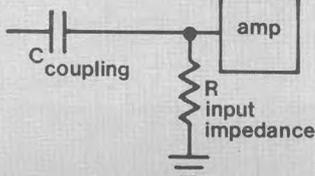

Fig. 4
**Coupling capacitor formulas.** Suppose we have a circuit like figure 4, where we need to capacitively couple into a stage with a 100k input impedance. If you use a .1 uF capacitor, at what low end frequency will the response be down by 3 dB? Well, the formula is **Frequency (in Hz) at which the signal is down by -3 dB = 1 divided by (2 pi times Resistance times Capacitance)**. Resistances are in Ohms and the capacitances in Farads, but to simplify life, we can express the resistance in MegOhms and the capacitance in microFarads. Also, let's just say 6.28 for 2 times pi. This gives us a more manageable: